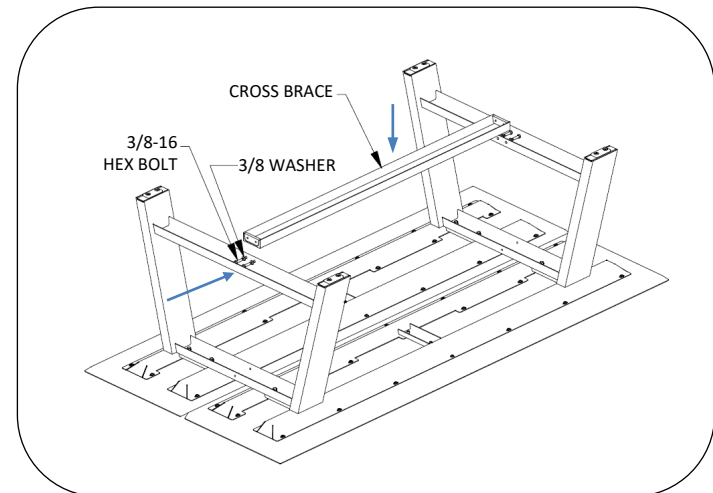

Fig. 2 – attach cross brace to supports
4. Install cross brace to supports using 3/8-16 hex bolts and washers, 2 per side, see Fig. 2. Open side of bracing will face the ground when table is in upright position.